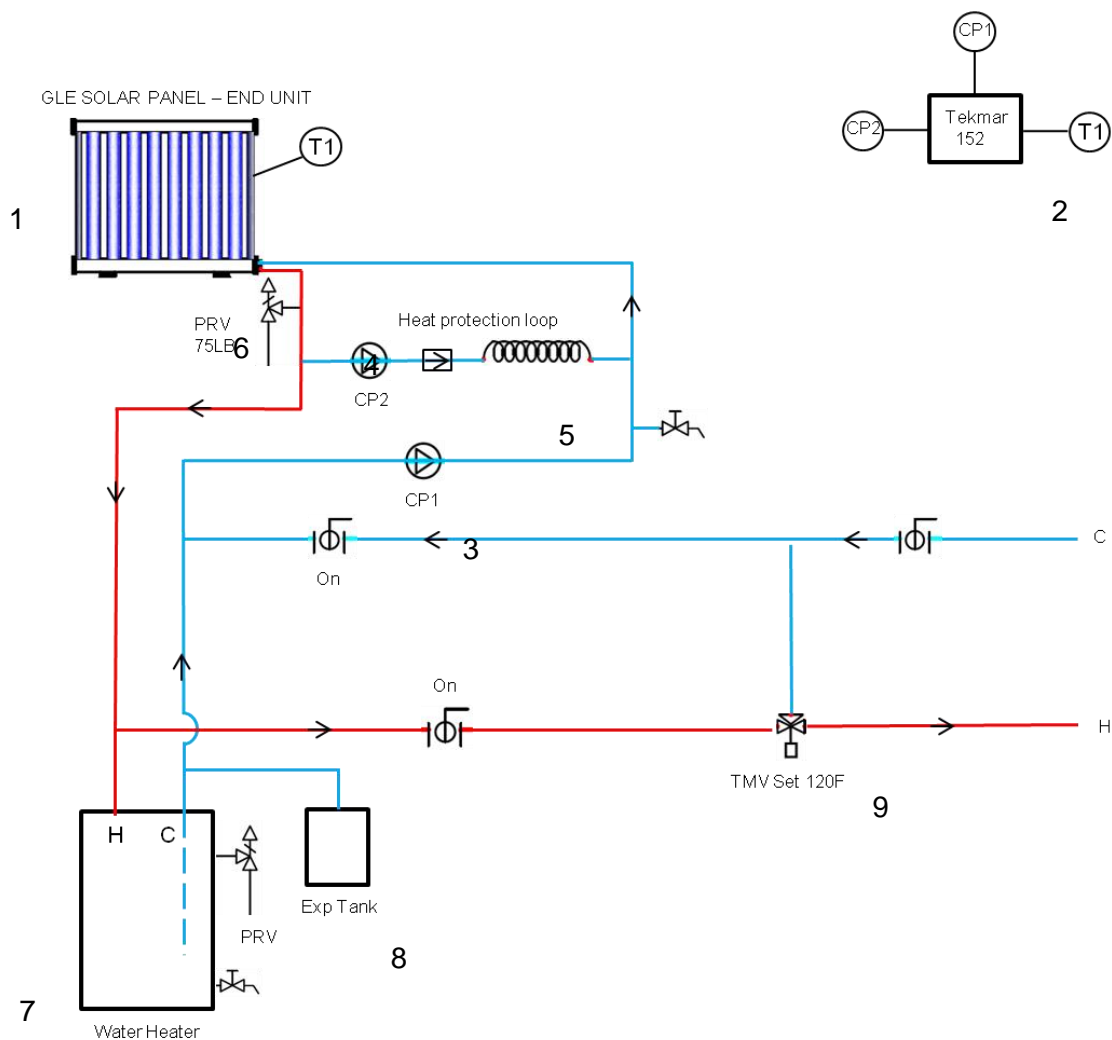

Figure 6.2: Direct Circulation system design diagram showing basic functionality.
7.2.2 Control Settings for Direct Circulation Systems: DC system design is shown in Fig. 6.2. It uses a controller Tekmar 152. Set the Tekmar 152 to Single Sensor Mode by setting the dip switch in the downward position.